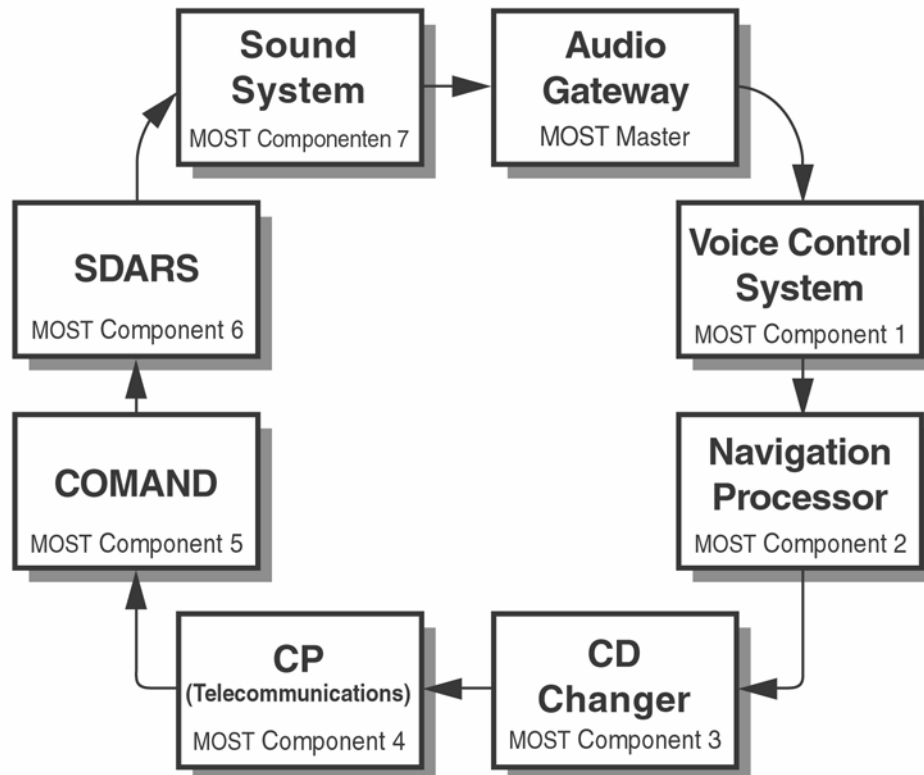

Figure 17
2. Set the MOST ring configuration to match that of Figure 17 by using the path:
Note: The MOST ring configuration in Figure 17 is an example of a configuration including every component. Some installations will not include all the components shown in the example. If a component is not present, connect the preceding component to the component following the one not present.
DO NOT alter the configuration in Figure 17 to match the vehicle configuration. Failure to have the configuration set as indicated in Figure 17 will result in erroneous system operation and/or intermittent malfunctioning of some or all components.